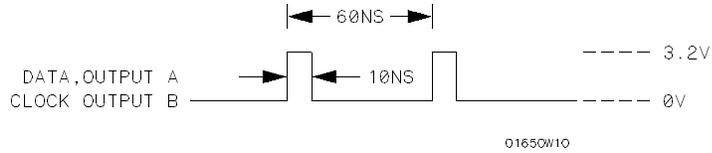

Figure 3-3. Waveform for Data Test 1
2. Adjust pulse generator for the output in figure 3-3.